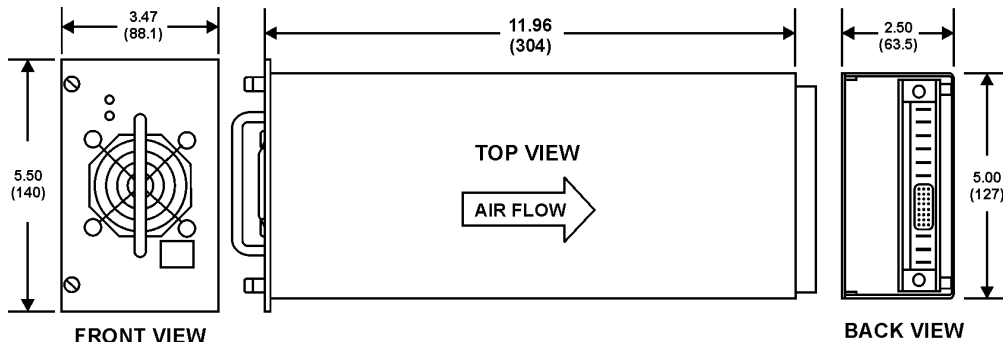

Figure 3. Views of Hot-Swap, 400-Watt Module
- 8.1** The front panel of a TNF/TNQ Series module is shown in Figure 2. The front, back and top views of the 400-Watt, hot-swap modules are shown in Figure 3. All input, output, and control and supervisory signals are brought out to a high-reliability, hot-swap connector which is shown in the back view. On the front panel are two green indicator LEDs, one for input power good and the other for output power good. Also shown on the front panel is the optional ON/OFF switch. Each module is individually fan cooled.